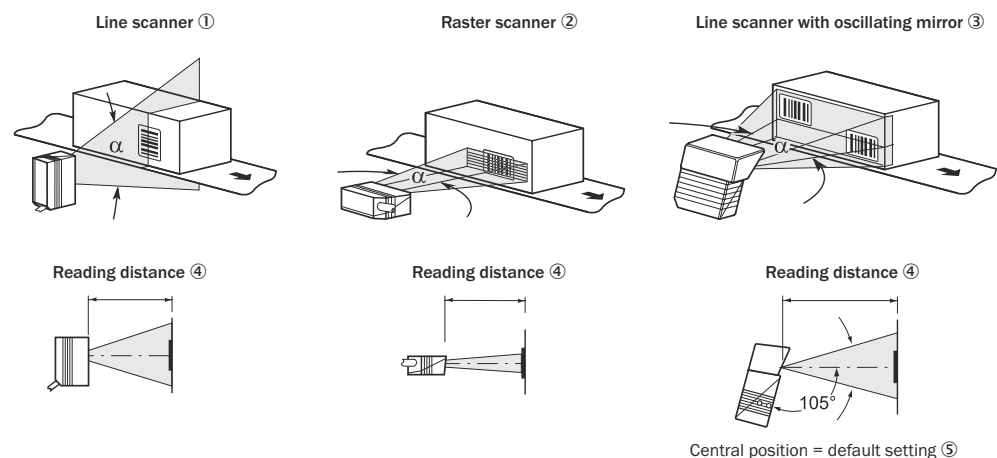

Figure 24: Allocation of scan line(s) to bar code and conveyor direction
- Reading distance to bar code and aperture angle α (see figure 24, page 43)